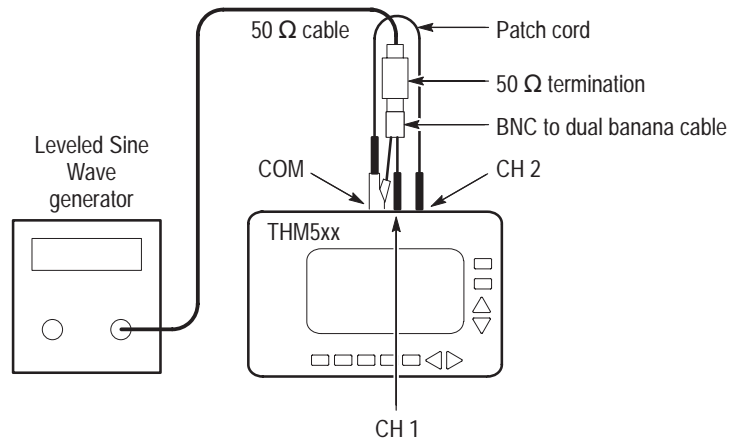

Figure 10: Crosstalk between scope channels test setup
1. Connect the leveled sine wave generator output to the THM500 series instrument CH 1 and COM inputs. Use a 50Ω termination as shown in Figure 10. Assure that the ground connection for each adapter connects to the common (or ground) connector of its associated instrument.
2. Connect the THM500 series instrument CH 2 input to the COM input using a patch cord as shown in Figure 10.